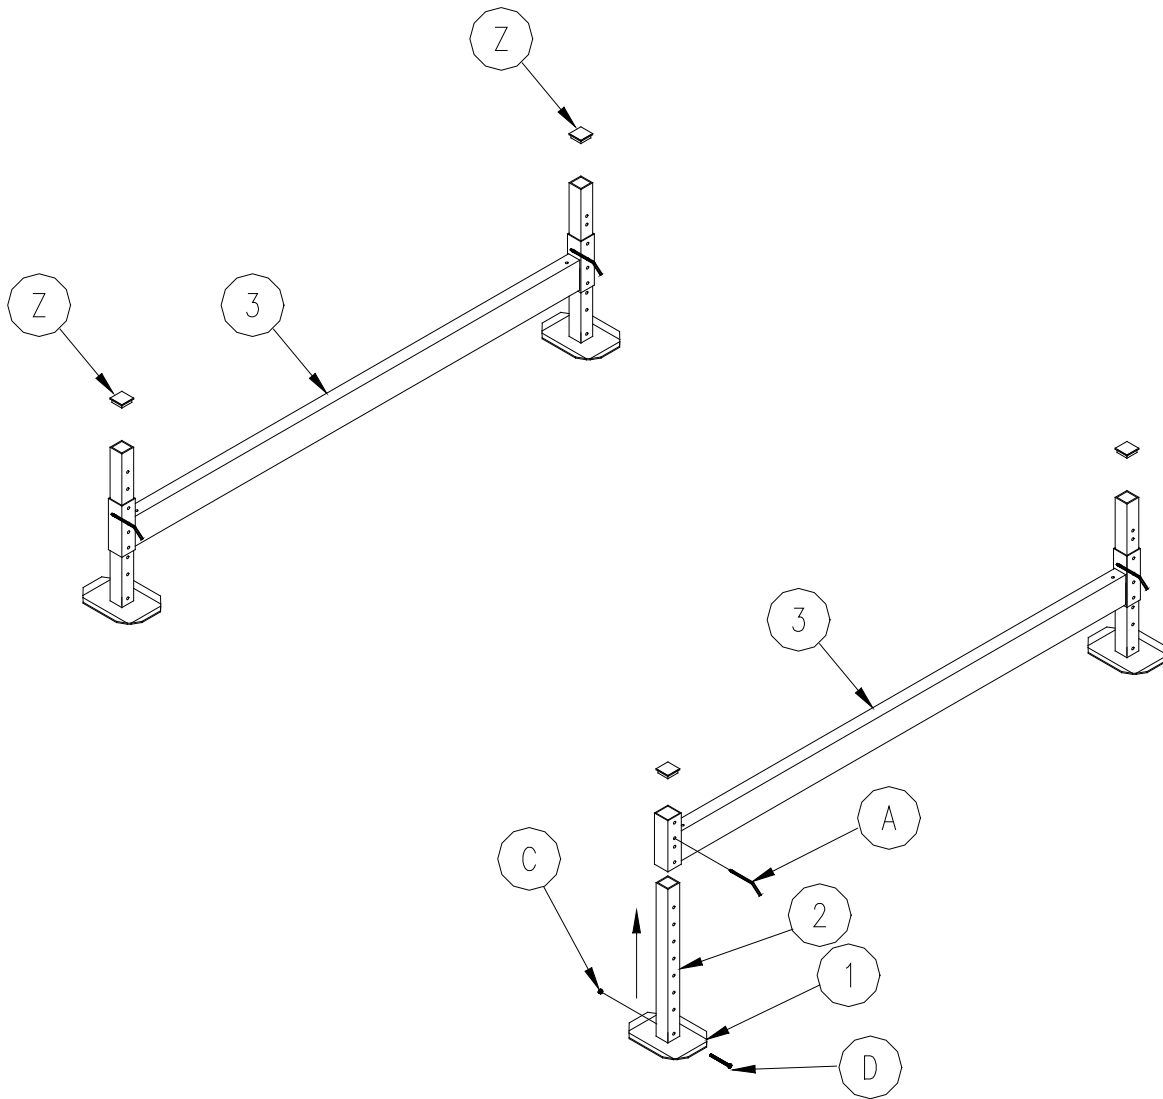

Figure 3-1.
1. Refer to **Figure 3-1**. Fasten foot plate (1) to extension leg (2) using hardware (C) and (D).
2. Insert foot plate and extension leg assembly into leg assembly (3). Insert leg pin and clip (A) to secure.
3. Install the four plastic cap plugs (Z) onto ends of the extension legs.